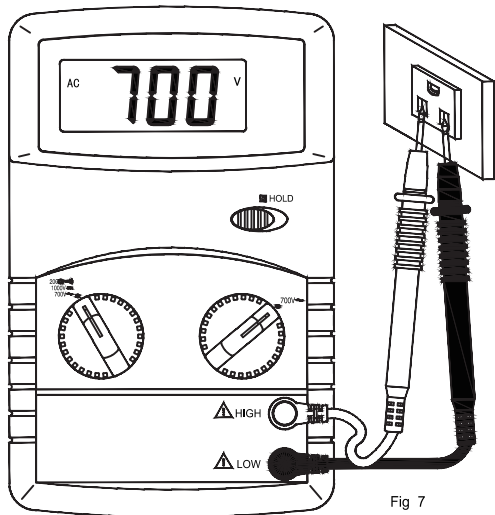

Fig 7
4.7 MEASURING AC VOLTAGE (See Fig 7)